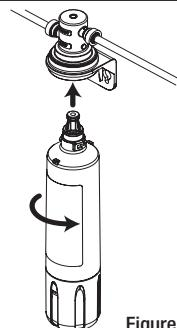

Figure 4
6. Referring to the "Using Push-In Fittings" section, insert the blue tubing coming from the 1/4" Feed Water Adapter into the INLET fitting as shown in Figure 4.
7. After installing the faucet as detailed below, insert blue tubing to faucet into OUTLET fittings, as shown in Figure 4.
8. Align tabs of filter cartridge with head assembly and insert filter cartridge into head assembly. Turn filter cartridge counter clockwise until it stops (about 1/4 turn). The filter is now installed. (See Figure 4).
9. Turn water supply back on from the shutoff valve on cold water line. This will pressurize the filter system and begin sending filtered water to the faucet. Look for leaks. If leaks occur, see Troubleshooting Guide. Flush the filter for four (4) gallons (approx. 5 minutes) to remove any trapped air.